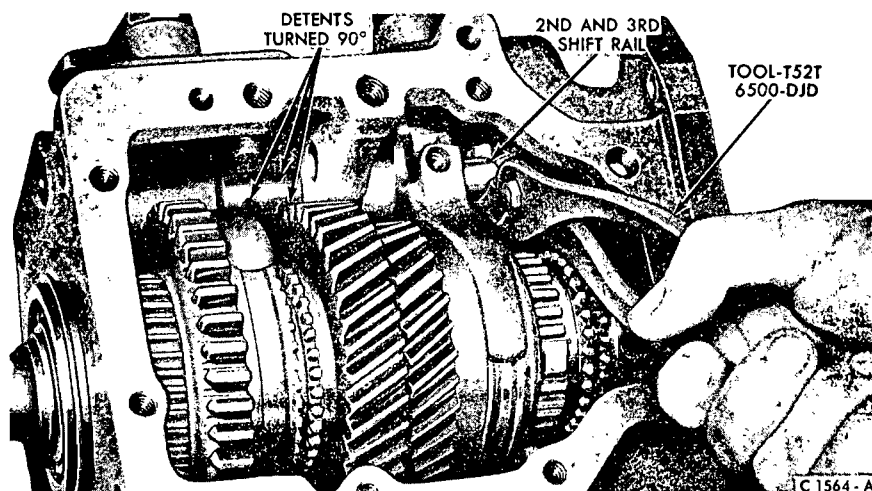

FIG. 10—Rotating Second and Third- Speed Shift Rail
14. Move the second and third speed shift fork to the second speed position to gain access to the set screw. Remove the set screw from the fork. Rotate the shift rail 90° as shown in Fig. 10.